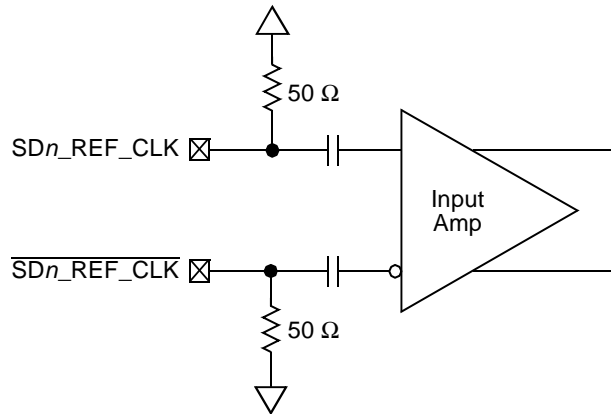

Figure 45. Receiver of SerDes Reference Clocks
Figure 45 shows a receiver reference diagram of the SerDes reference clocks.
- The $\text{SD}n_{\text{REF_CLK}}$ and $\overline{\text{SD}n_{\text{REF_CLK}}}$ are internally AC-coupled differential inputs as shown in Figure 45. Each differential clock input ($\text{SD}n_{\text{REF_CLK}}$ or $\overline{\text{SD}n_{\text{REF_CLK}}}$) has a 50- Ω termination to $\text{SGND_SRDS}n$ (xcorevss) followed by on-chip AC-coupling.